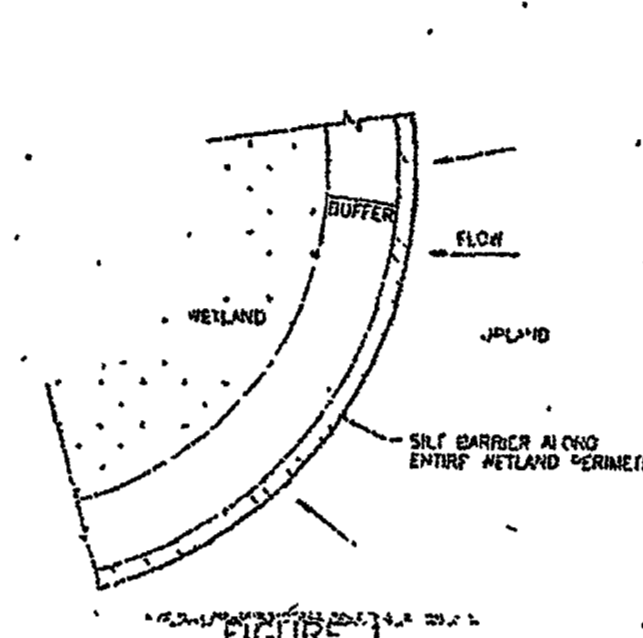
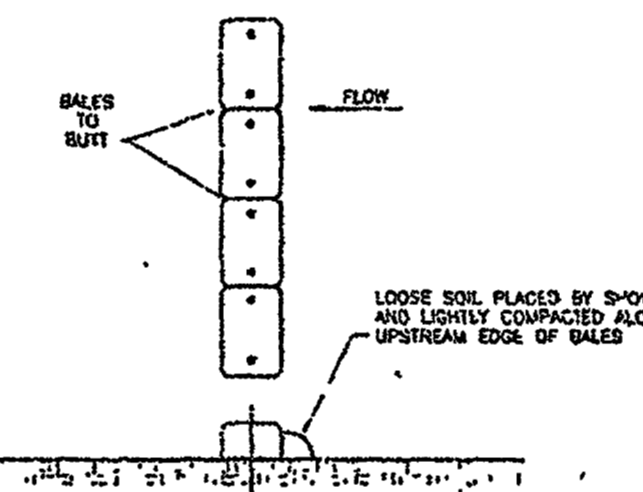
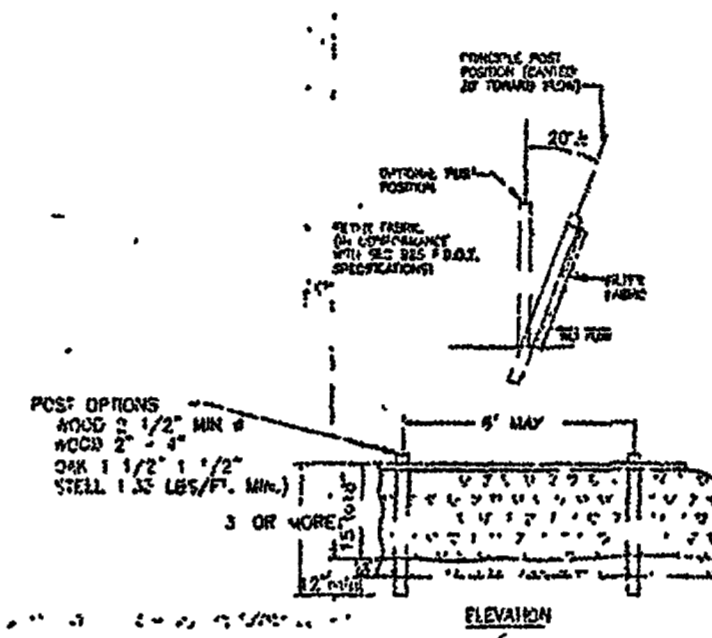

FIGURE 1
FIGURE 3
FIGURE 2
- 1.2 Preserved wetlands shall be protected prior to the start of any construction. Protection shall consist of a silt barrier constructed along the entire perimeter of the preserved wetland as shown in Figure 1. The silt barrier shall be constructed along the outer edge of the required 50 foot buffer adjoining preserved wetlands. The silt barrier may be either a silt fence as shown in Figure 2 or hay bales as shown in Figure 3.
- c. At any time both during and after site construction that watering and/or vegetation are not effective in controlling wind erosion and/or transport of fugitive dust, other methods as are necessary for such control shall be employed. These methods may include erection of dust control fences. If required, dust control fences shall be constructed in accordance with the detail for a silt fence shown in Figure 2 except the minimum height shall be 4 feet.